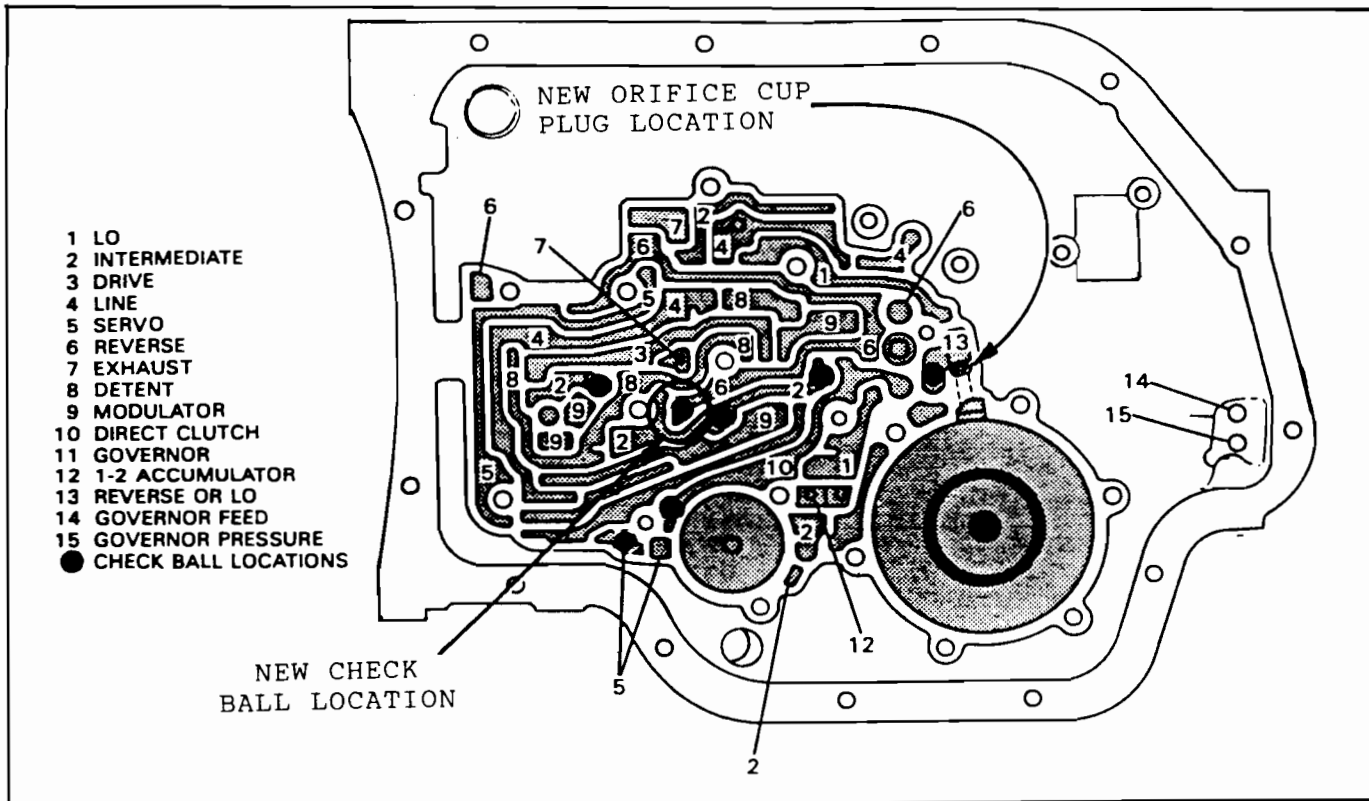

Figure 1
- (1) Transmission Case - Seventh check ball added to the case, and orificed cup plug added in the reverse servo feed bore. See Figure 1 for locations of both items.